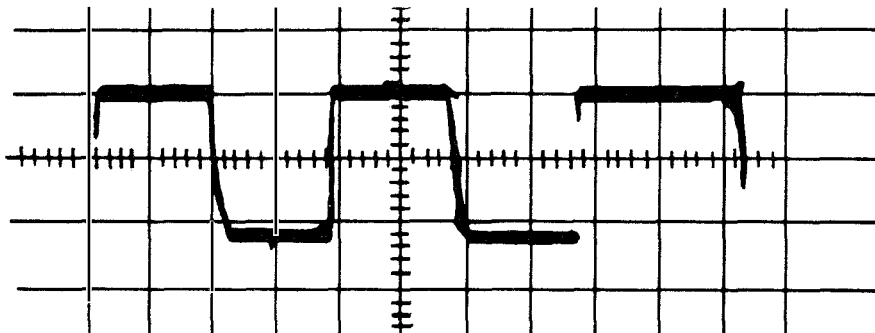

Figure 5.1 Waveform Method 1
2. Insert a test tape in the TD. The tape should contain a repetitive character such as an R. Start the TD and adjust the scope sweep controls to obtain a stationary pattern including several marks and spaces. A pattern similar to that shown in Figure 5.1 should be obtained. The marking and spacing levels should be symmetrical with respect to the scope base line.
Do not use the stop baud as a marking element. It is of a longer time duration than the other elements of the signal. The stop baud appears at the right hand side of the trace shown by Figure 5.1.